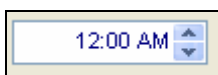

Figure 16.1.18D
14. Click on the **Time** box and use the **UP** and **DOWN** arrows to set the time that you want this schedule to stop (Figure 16.1.18D).